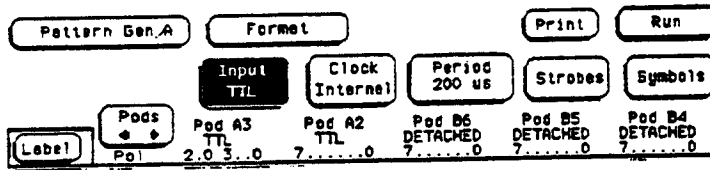

Figure 3-16. Set TTL Level
- e. Touch Input field to set input level to TTL as shown in figure 3-16.